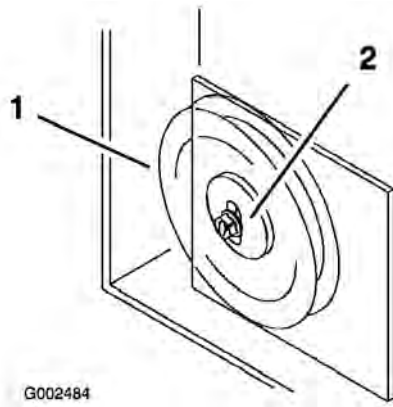

Figure 59
11. If the idler plate contacts the end of the adjustment slot and more belt tension is required, a small change to the right side fixed idler can create more belt tension adjustment (Figure 59).